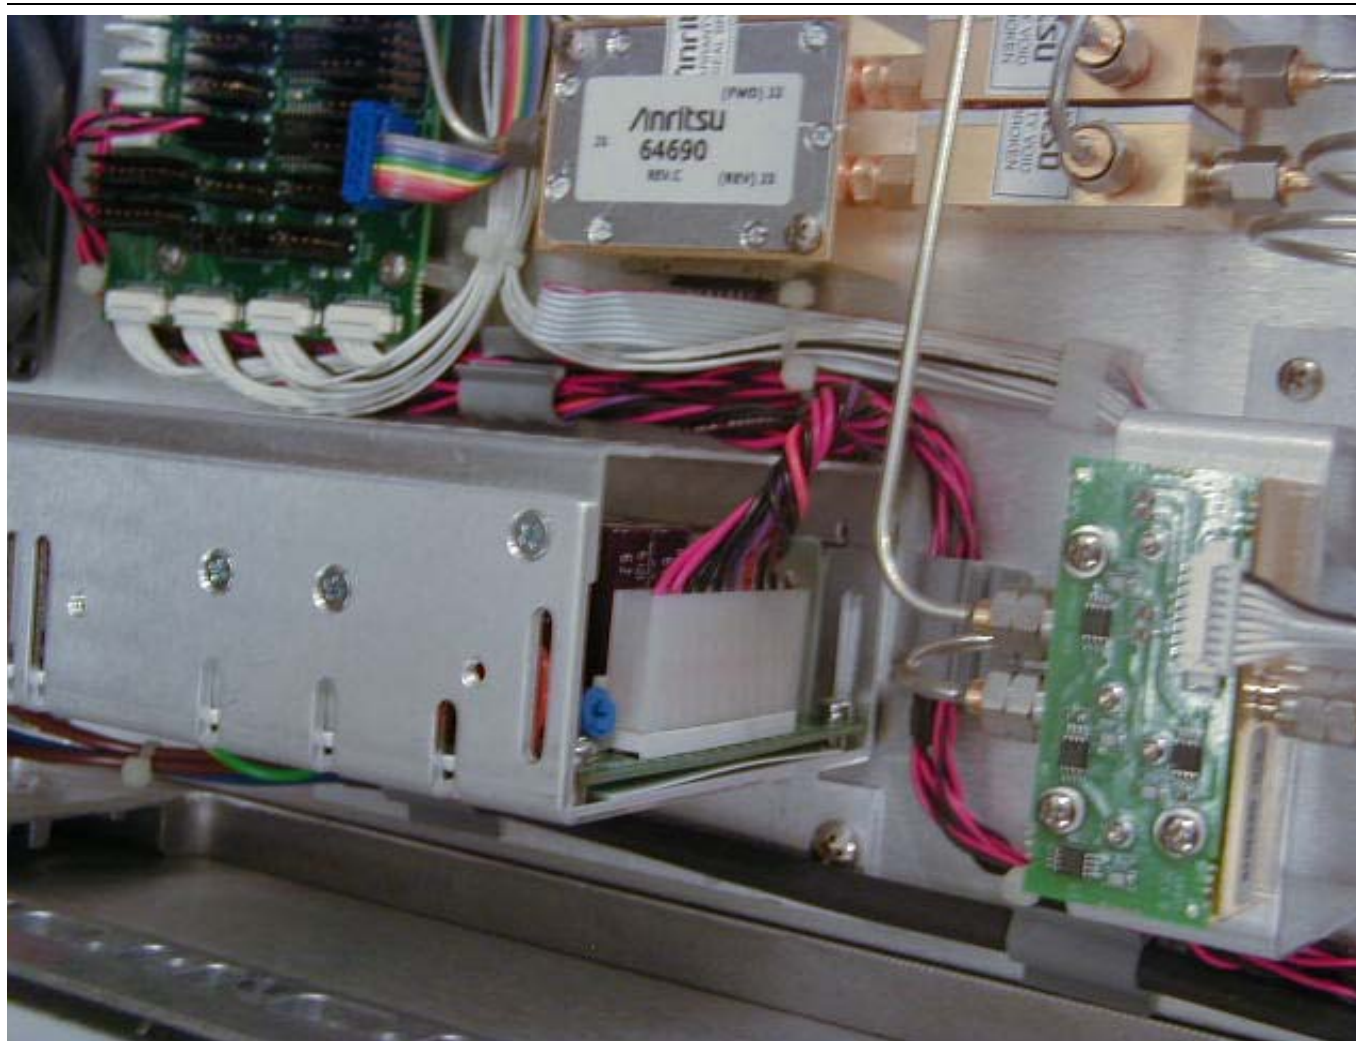

Figure 5-8. Power Supply DC Output
- See Figure 5-8, “Power Supply DC Output” on page 5-12 below.